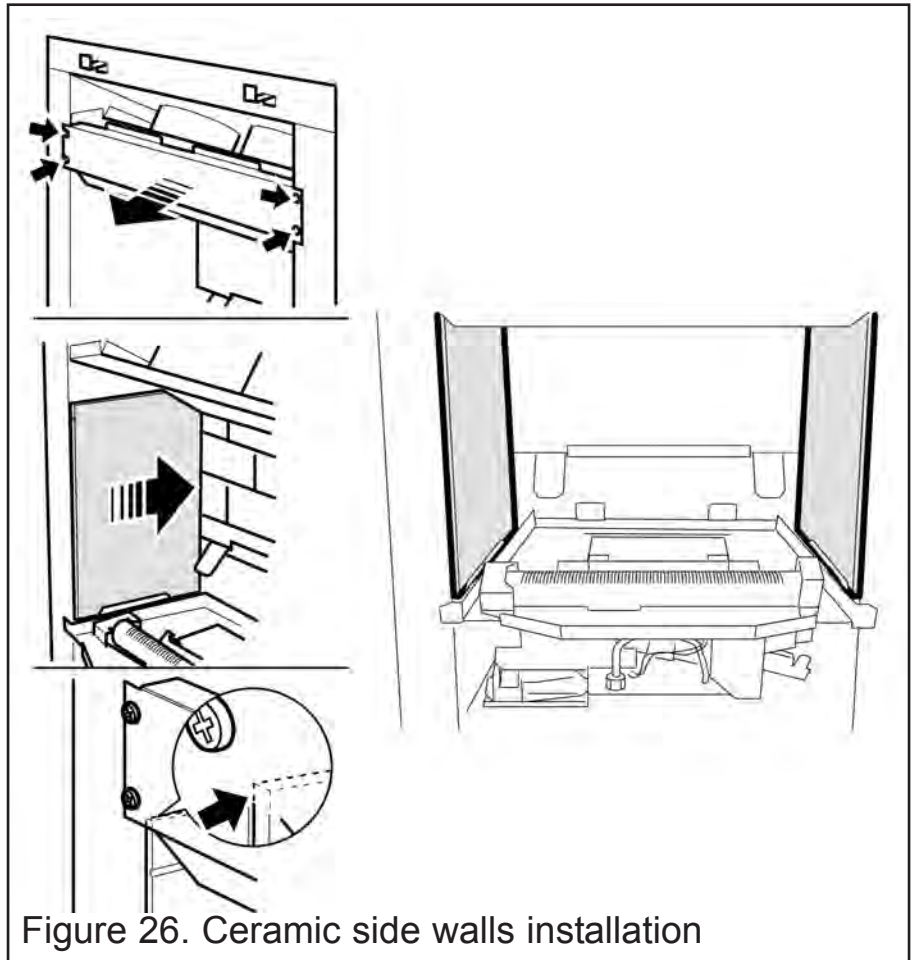

Figure 26. Ceramic side walls installation
2. Remove four screws from the spillage plate sides (See figure 26).
the ledges at the sides of the firebox. Slide them in from the front and ensure that they touch the rear wall. The friction between the side walls and the rear wall should hold the side walls in position (See figure 26).